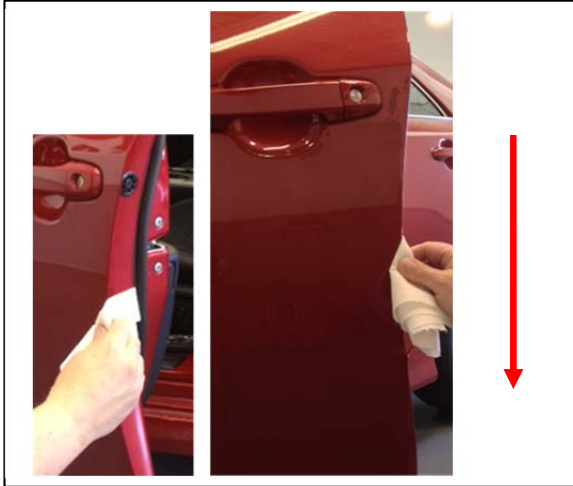

Fig. 1-2
- b. Using a second lint free cloth, thoroughly dry the area free of Simple Green (or VDC approved cleaner) previously applied. In some instances a rubber weather seal may be found – ensure to clean between the trailing edge and the rubber seal (Fig. 1-2). Turn the cloth repeatedly to attain a dry surface.